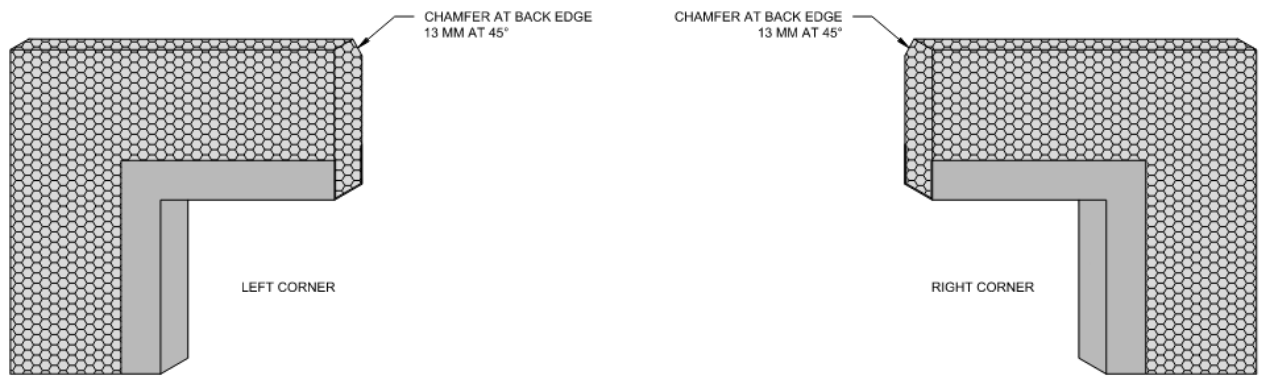

Figure 1
The AquaDuct is created utilizing the Dryvit AquaFlash® liquid flashing with 102 mm (4 in) AquaFlash mesh, and starter boards or picture framed cut EPS foam boards, with the backside edge beveled at a 45° angle. (See Figure 1) The AquaDuct is installed on to the beveled edge of the starter boards and corners over the rough opening of the penetration and extends past the first bead of vertical adhesive to the left and to the right of the penetration. This AquaDuct will direct any incidental moisture away from the rough opening and on to the adjacent wall area where drainage will occur.
1. Install starter boards, with beveled edge on the inside, around the opening as instructed within the specific Outsulation System Application Instructions. The picture framed EPS boards at the header locations must have the upper inside corner beveled to a 45° angle. (See Figure 1)